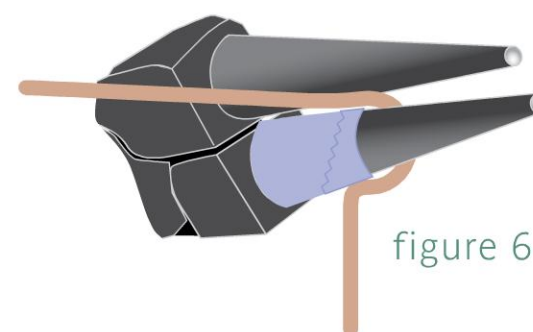

figure 6
- 3 Roll your pliers away from you, until you've made one-half of the loop (Figure 6).